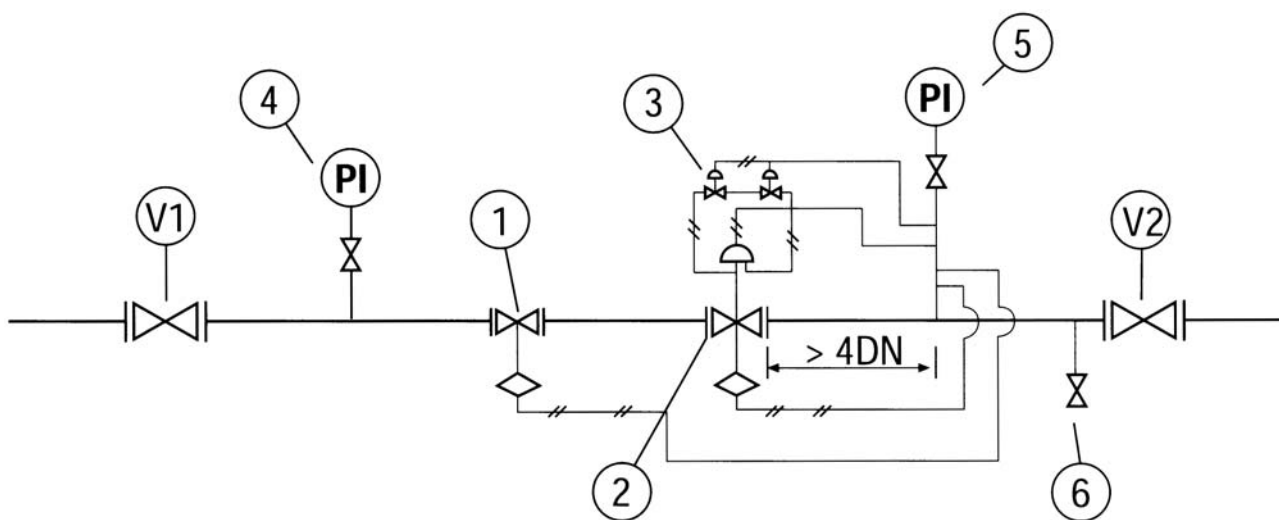
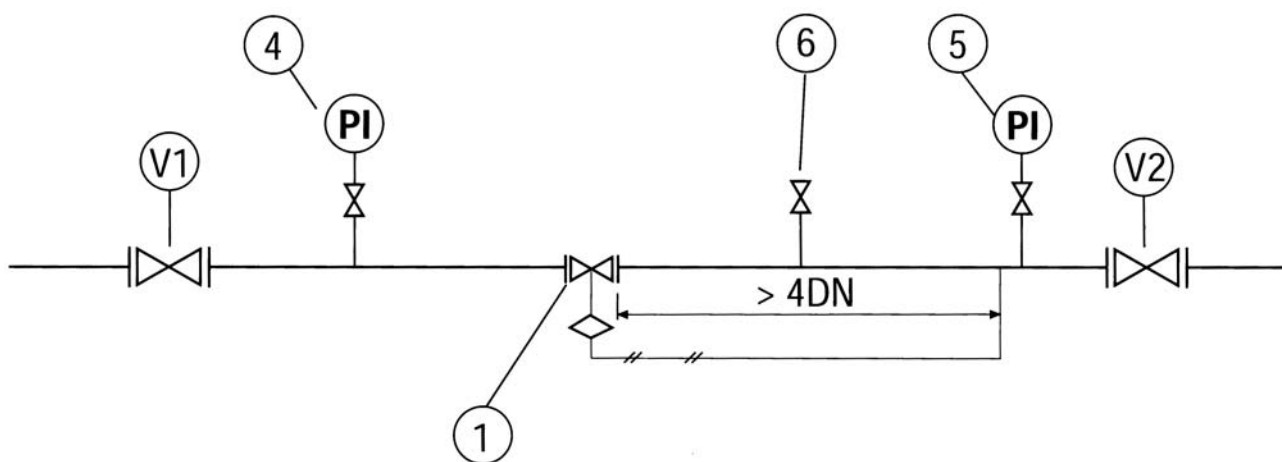

Fig. 6
Fig. 7
For proper regulation, it is indispensable for the downstream sensing line to be connected to a rectilinear stretch of the downstream piping itself with a length in accordance with the Fig. 6 and 7 and with a maximum gas speed at the take-off point not exceeding 30 m/sec.
The most common types of installation for the ICN cut-off device are shown in figures 6 and 7.
Figure 6 shows installation in a pressure regulation line, figure 7 shows installation on a generic trunk.
- 1** Gas safety cut-off device Fig. 7
- 2** Pressure regulator with built-in cut-off device Fig. 6